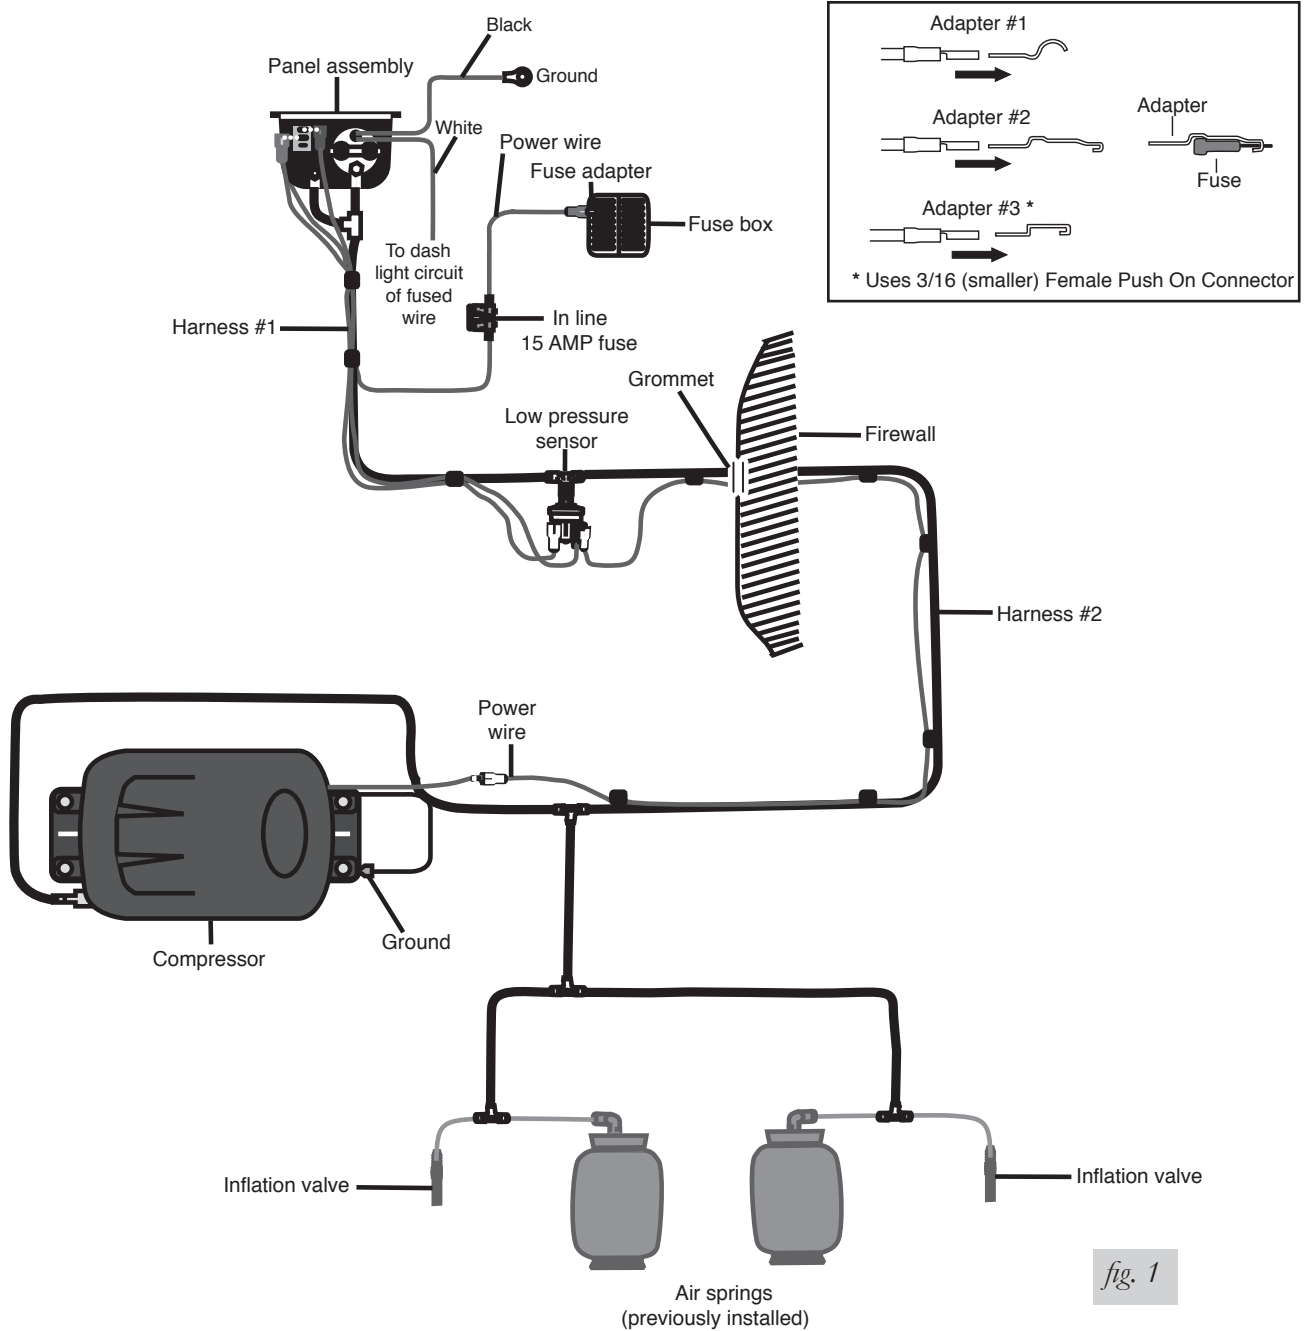

fig. 1
7. The next connection is between each air spring and the air line “T” fitting located just ahead of the check valves in harness #2, near the compressor (Figs. 1 and 7).
- b. Install the provided “T” fittings (Fig. 1) by pushing the air line into each leg of the “T” until you feel a definite “click”. Each line should go in 9/16”.
- c. Connection to the fuse terminal will depend on what type of fuse your vehicle uses. If your vehicle uses the barrel type fuse, use adapter #1. If you have the standard spade type fuses, use adapter #2. Many late model vehicles use a smaller spade type fuse which requires adapter #3 (see inset with fig. 1). If adapter #1 or #2 are used, it will be necessary to cut off the 1/4” female connector attached to the power wire and crimp the smaller 3/16” female connector supplied with this kit.
- b. Ground the black wire to an adequate ground. Use the additional wire and connectors supplied if longer leads are needed (Fig. 1).